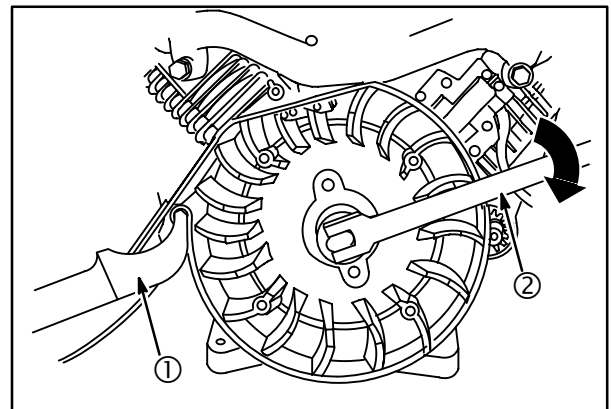

Fig. 16
2. Place Flywheel Strap Wrench #19433 (1) around outer rim of flywheel, **Fig. 16**.
3. Use torque wrench (2) to torque flywheel nut to **125 ft. lbs. (175 Nm)**. Models 290000, 303000 and 150 ft. lbs. (203 Nm). Models 540000 and 610000.